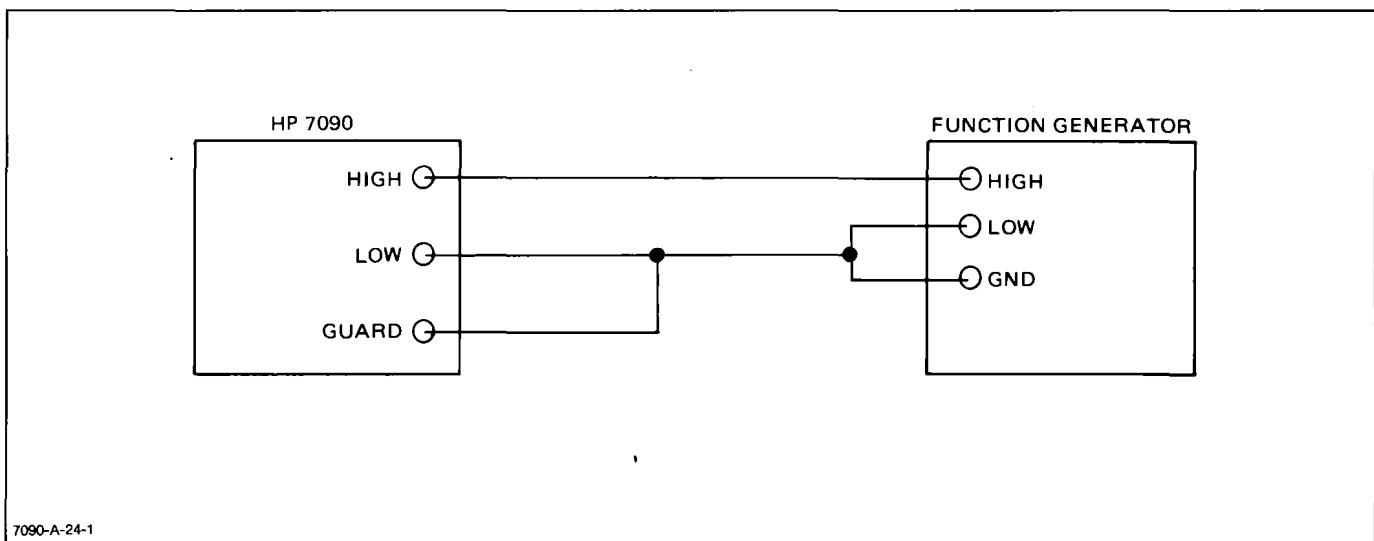

Figure 4-6. Analog Channel Bandwidth
- a. Set the HP 7090 line power switch to off (O).
- c. Connect the function generator to the HP 7090 as illustrated in Figure 4-6.